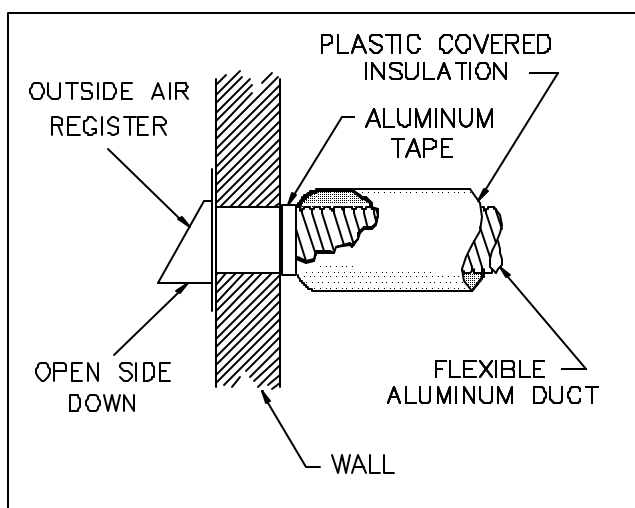

Figure 8b
1. The maximum length of 4" I.D.(100 mm) insulated flexible duct is 20 ft (6.1 m ). If a longer duct is required, use a 6" I.D (150 mm) insulated flexible duct. The maximum length is 40 ft (12 m ). Refer to figures 8b and 8c for connections.